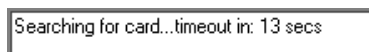

Figure 23: Searching for Card
5. Power down and then power up the receiver when “Searching for card” appears in the main display, see *Figure 23*.